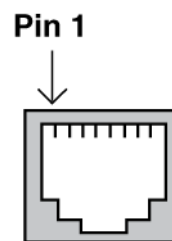

Figure 26. Pin Layout for RJ45 Connector on LAN Port
**Port Pinouts** The pin signal definitions for PORT (POE) are given here. Figure 26 illustrates the pin layout of the ports.